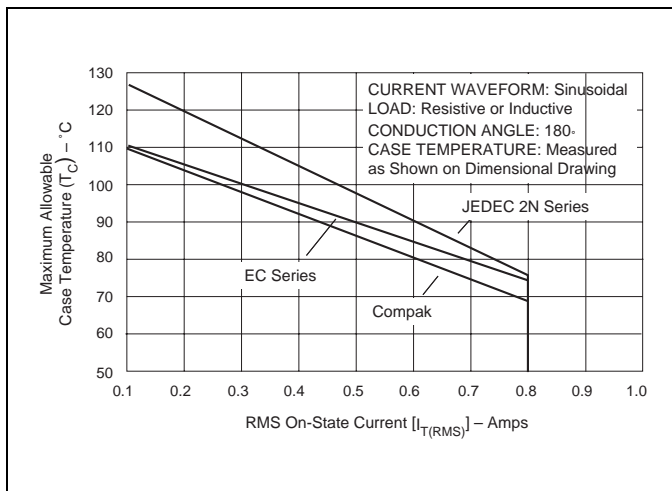

Figure E5.1 Maximum Allowable Case Temperature versus RMS On-state Current
- (1) See Figure E5.1 through Figure E5.9 for current ratings at specified operating temperatures.
- (13) See Figure E5.1 through Figure E5.9 for maximum allowable case temperature at maximum rated current.
- (14) I_{GT} = 500 μA maximum at T_C = -40 °C for T106 devices
- (15) I_H = 10 mA maximum at T_C = -65 °C for 2N5064 Series and 2N6565 Series devices
- (16) I_H = 6 mA maximum at T_C = -40 °C for T106 devices
- (17) Pulse Width ≤ 10 μs
- (18) I_{GT} = 350 μA maximum at T_C = -65 °C for 2N5064 Series and 2N6565 Series devices